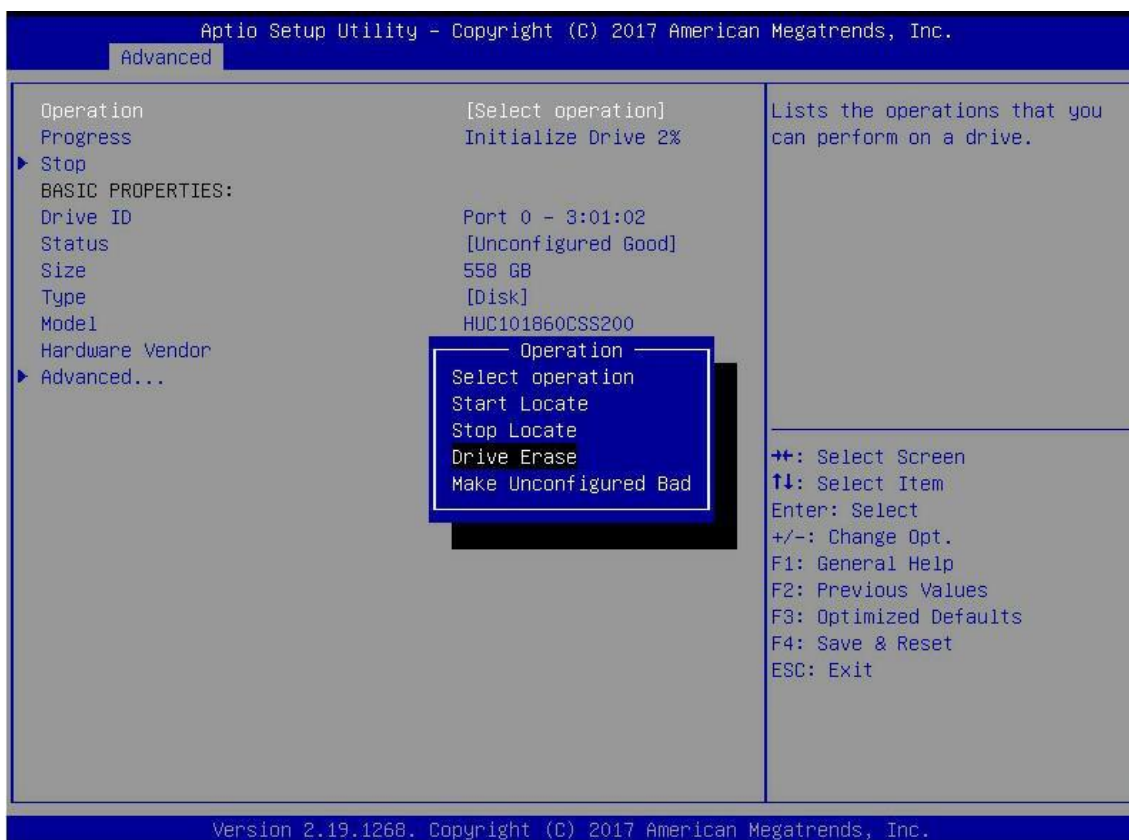

Figure 6-55
- c) Enter the interface shown in figure 6-55, select operation, press enter, and then select drive erase in the pop-up dialog box and press enter.